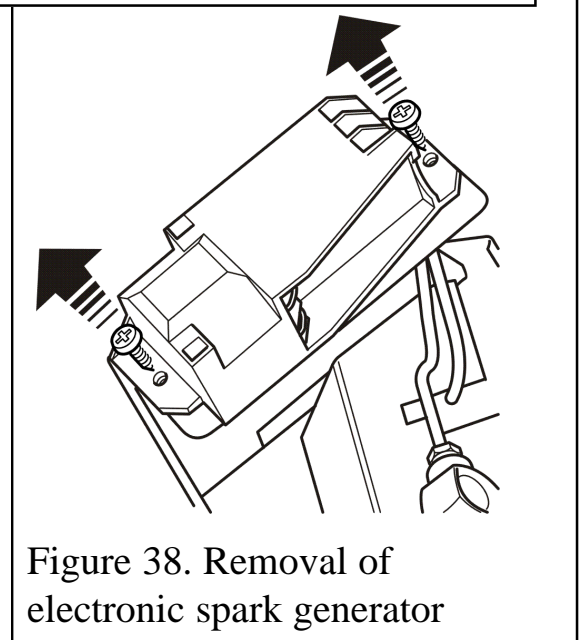

Figure 38. Removal of electronic spark generator
5. Unscrew the two fixing screws that attach the generator unit to the support bracket. The igniter generator can now be removed (See figure 38)